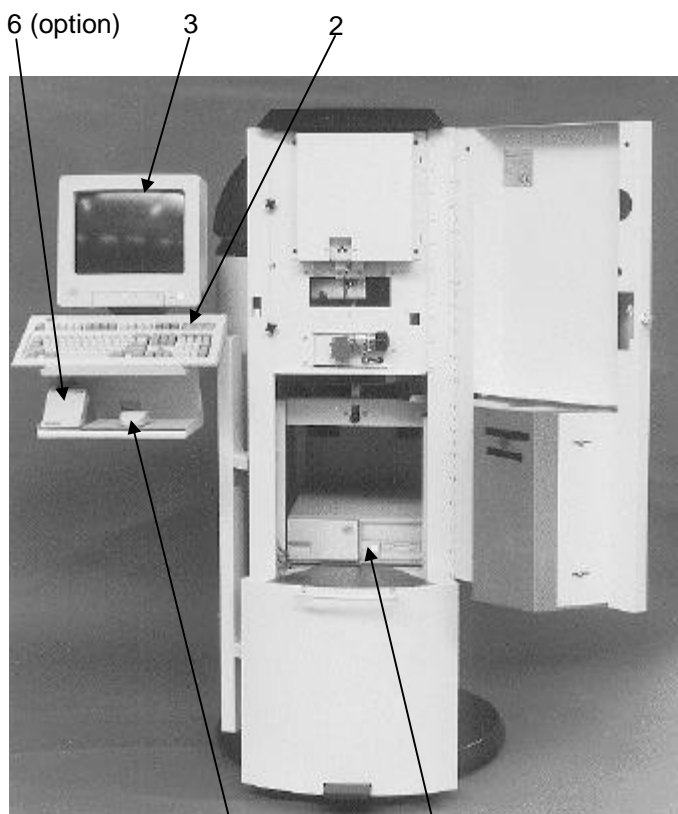

figure 8
- Position the keyboard (2), the monitor (3) and the computer (4), (and the mouse (5) and label printer (6) where applicable) as shown in figure 8.